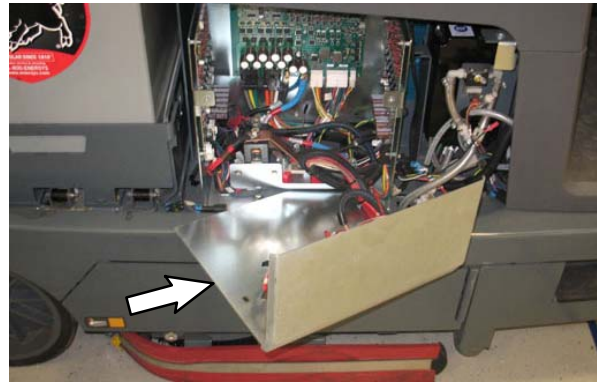

FIG. 8
18. Carefully remove the electrical enclosure cover from the electrical enclosure and position the electrical enclosure cover out of the way. **Do Not** break or damage wires / wire connections when removing the electrical enclosure cover from the electrical enclosure. (Fig. 8)